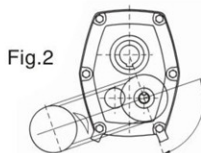
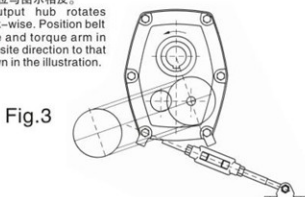

Fig.2
Fig.3
- 2、安装电机时，电机带轮和减速机的输入轴带轮中心的连线应该和减速机输出轴与输入轴中心的连线成大约90°关系（参考图2），这样可以用扭力臂拉紧皮带。如果输出轴是逆时针旋转，扭力臂最好被固定在减速机的右边（参考图3）。
2. Install motor and wedge belt drive with the belt pull at approximately 90° to the center line between driven and input shafts (see fig.2). This will permit tensioning of the wedge belt drive with the torque arm which should preferably be in tension. If output hub runs anti-clockwise, torque arm should be positioned the right (see fig.3).